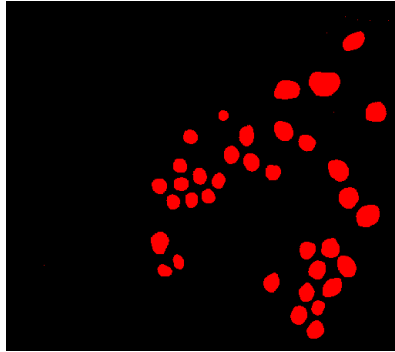

Figure 3-5. Isolating Circular Particles
- Click **OK** to add this step to the script. The image now contains only circular particles, as shown in Figure 3-5.